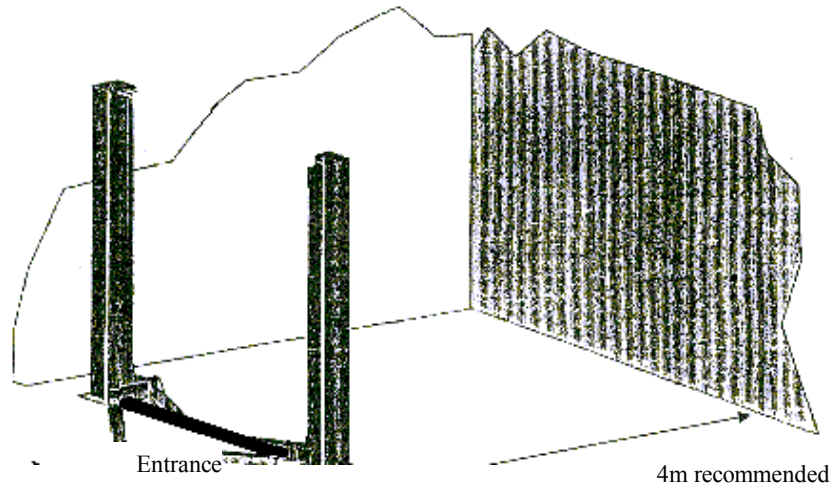

Fig.3
- Check the possible obstruction, e.g. low ceiling, top pipeline, working area, passage, exit, etc. (See Fig. 3)